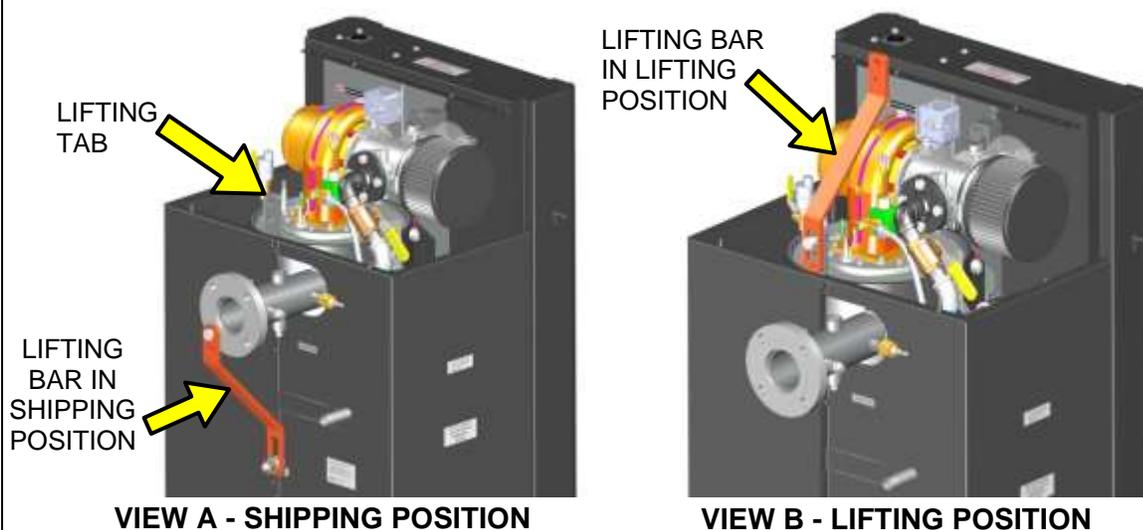

Figure 2-3a: BMK 750/1000 Boiler Lifting Provisions
Unpack and inspect the unit, then remove the four (4) lag screws securing the boiler to the shipping pallet. The boiler can be lifted and moved by inserting forklift tines in the front slots provided in the base of the unit, or it can be lifted by attaching a lifting bar to the unit's heat exchanger. A lifting bar (P/N **59174**), with attaching hardware, is supplied with each unit. When shipped, this bar is attached to the rear of the unit as shown in Figure 2-3a (View A). One (1) lifting tab is provided at the top of the unit's heat exchanger as shown. This tab is used to attach the lifting bar to the unit, as described below.
1. Remove the lifting bar from its shipping location at the rear of the unit (Figure 2-3a, View A). Retain the two (2) hex head cap screws, hex nuts and flat washers.
3. Attach the lifting bar to the heat exchanger lifting tab using the hardware removed in step 1 (Fig. 2-3a, View B). The upper end of the lifting bar containing the oval cutout should be positioned over the top of the heat exchanger as shown.